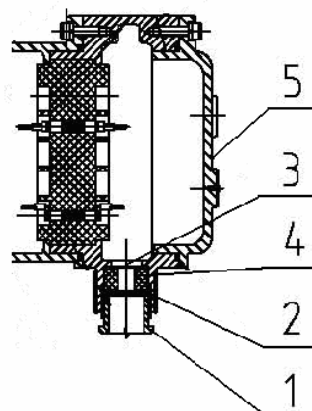

Fig.4 QBR3Ex-QBR5Ex explosive-proof wiring box
2.2 Wiring steps for explosion-proof type of electric actuator (see Fig.4)
- 2.2.3 Put power cable and control cable respectively through No.1, No.2, No.4 and No.2 (see Fig.4)